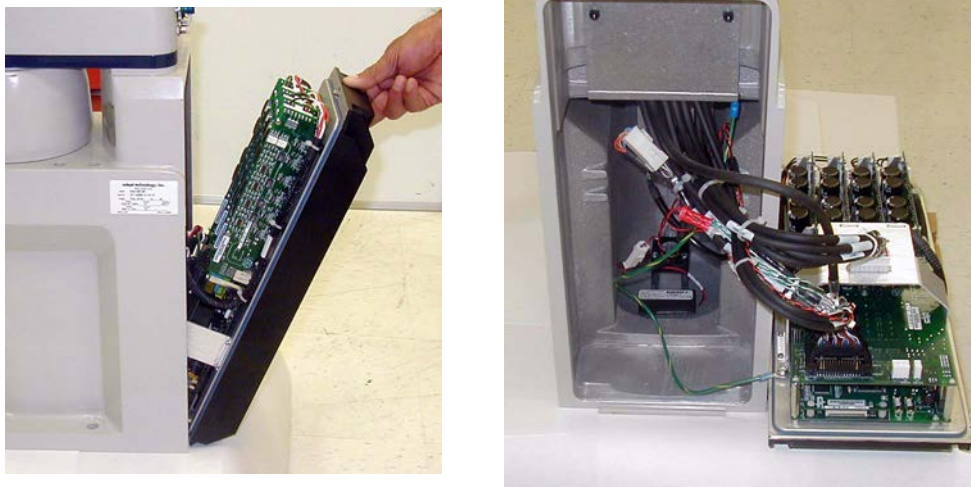
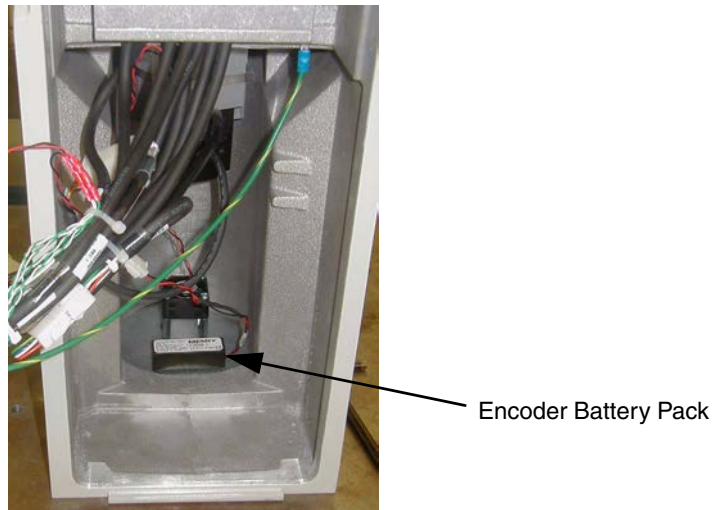

Figure 5-3. Opening and Removing AIB Chassis
Figure 5-7. Location of Encoder Battery Pack
8. While holding the chassis heat sink, carefully and slowly lower the chassis down (see Figure 5-3 on page 66), so that enough access is available to remove the internal cables. The chassis can be laid flat or placed to the right side of the robot for better access.
7. While holding the chassis heat sink, carefully and slowly lower the chassis down (see Figure 5-3 on page 66), so there is access to the battery. See Figure 5-7.